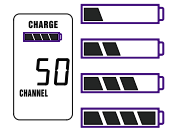

Fig. 4h: **TESTING/NOT CHARGING**
**NOTE: The right-side indicator segment will flash for several minutes when charging is first attempted** (see Fig. 4h). The lower the battery level, the longer this initial “testing/not charging” flashing sequence will continue. During this time, the Tireless Wireless battery circuit is evaluating the suitability and charge status of the battery in place. When it has completed its evaluation, it will either commence the progressive flashing depicted in figure 4i (CHARGING), or continue to flash (TESTING/NOT CHARGING). All segments flashing in unison signifies that the battery is fully charged (see Fig. 4j).
**NOTE: The Tireless Wireless battery charger will only charge NiMH rechargeable batteries.** If you place any other kind of battery in the transmitter, and then attempt to charge it by connecting the charger, the Tireless Wireless circuit will detect the type of battery and will not begin charging. Again, the battery indicator on the transmitter will flash the right-side element indicating testing/no charging (see Fig. 4h).